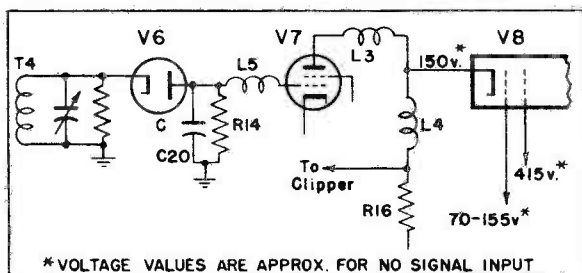

Fig. 4. Video Detector & Amplifier
3. VIDEO DETECTOR AND AMPLIFIER (See Figure 4)—The video i-f amplifier output is applied to a diode rectifier, V6, and the diode load, R14, is connected so as to develop a negative-going signal voltage at this point. The signal is amplified by tube V7 and then applied directly to the cathode of the picture tube, V8. This provides direct coupling so that d-c reinsertion is unnecessary. The chokes L_5 and L_3 are series peaking chokes, while L_4 is a shunt peaking choke. These are used to obtain good high frequency response. L_5 also prevents harmonics of the i-f frequency from being passed through the video amplifier. R16 is the V7 tube plate load resistor.
4. CLIPPER AND SYNC AMPLIFIER—The triode section, V9A, of a Type 6SN7GT tube is used to separate the sync pulses from the video signal taken off at the load resistor, R16, see Figure 4. This is accomplished by applying very low plate voltage to V9A, then the resulting grid rectification causes negative bias to be developed at the grid of V9A so that conduction occurs only during the sync pulse intervals which are the most positive component of the video signal.